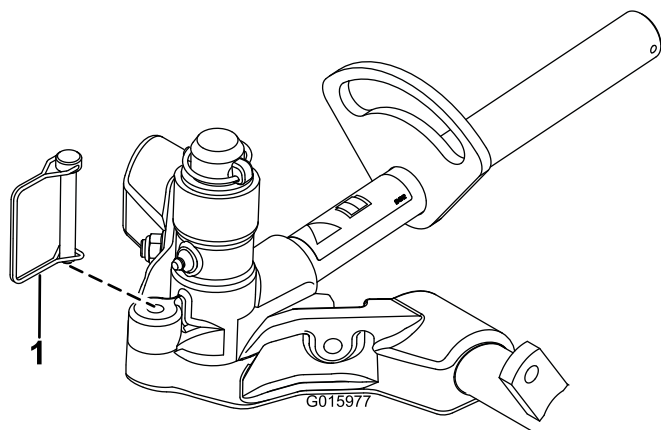

Figure 17
12. To lock (fix) the steering on the cutting units, secure the pivot yoke to the carrier frame with the snapper pin (Figure 17).